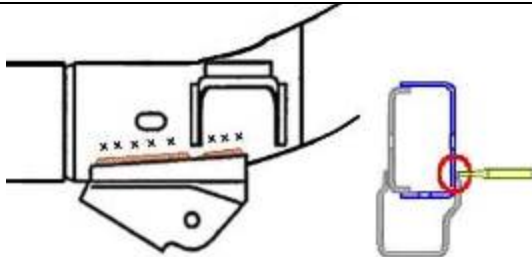

Figure 2 – Step 2 Hammering Locations
2. Using a 3/16" flat punch and a 12-16 oz. hammer, hammer on the locations identified with an "X" in Figure 2. Swing the hammer 10 to 12 inches to be sure enough force is applied to the punch. If a hole is created go to Step 4. If no hole is created, visually inspect the Rear Lower Trailing Link Front Mounting Bracket inspection area. Use the Visual Comparison Photo (P/N 2-90SVA-003-0) or Figure 1 for reference. If most of the frame coating is still in place and very little surface rust is present, apply Noxudol 300 (Go to "Condition One: Apply Noxudol 300" in this bulletin). If most frame coating is missing and excessive rust is present go to the next step.